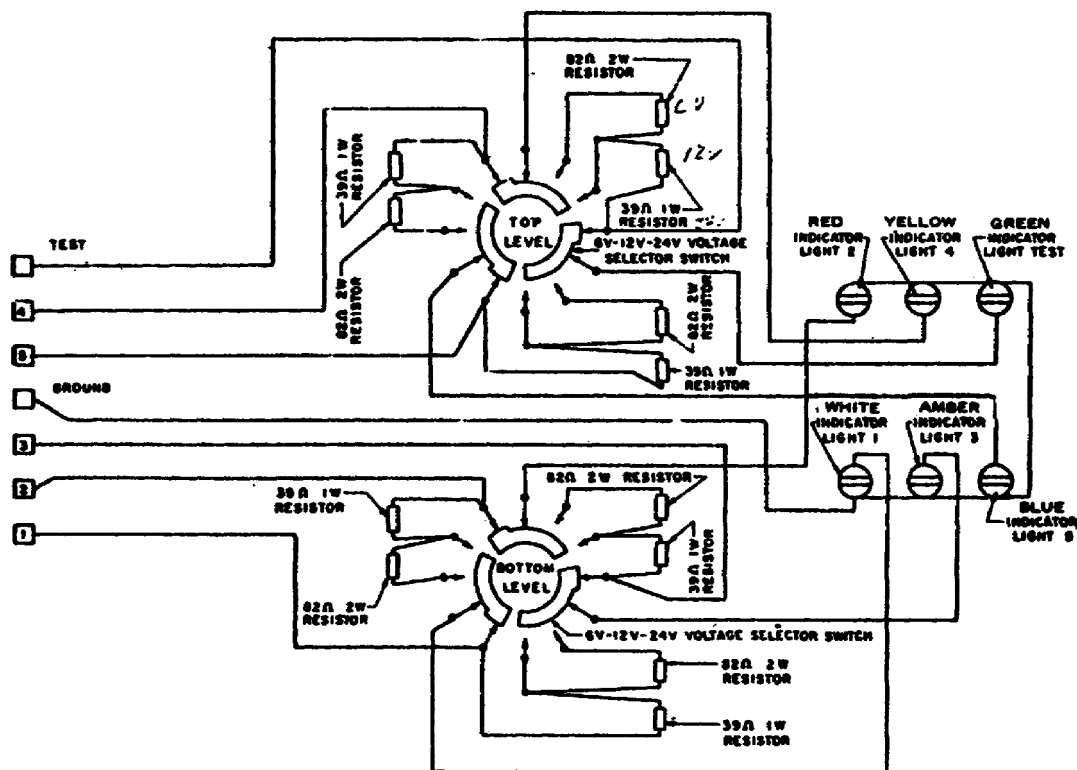

Figure 11. Circuit analyzer schematic wiring diagram.
b. A circuit analyzer (fig 11) is one of the accessories of the heater test stand. It can be used during all phases of operation to check heater electrical circuits. The analyzer can be used with the heater installed in the vehicle or with it mounted on the test set. Its voltage selector switch makes the analyzer adaptable for use with 6-, 12-, and 24-volt heater units. Maintenance men can easily check the electrical circuits of a heater by properly connecting the circuit analyzer and observing its indicator lights as they follow the checkout procedure.